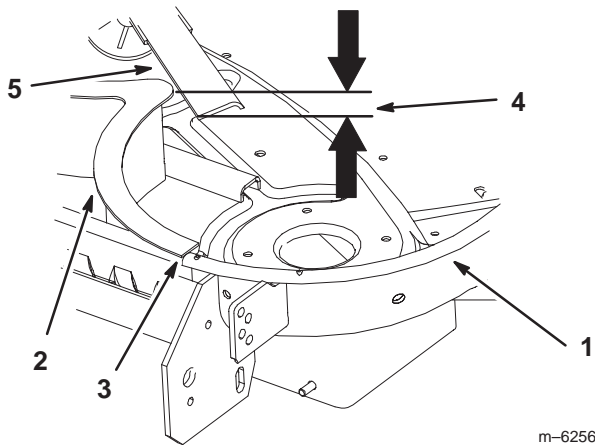

Figure 9
2. Align the center rear baffle so the baffle ends are touching the back mower flange (Fig. 9).
Note: The center baffle ends will rest on the mower flange (Fig. 9).
3. Align the middle part, of the center rear baffle, **9/16 to 11/16 inch from the blade tip**. See Figures 9 and 10 on where to measure.
Important Make sure the baffle flange is 9/16 to 11/16 inch (14 mm to 17 mm) from the mower blade (Figures 9 and 10).